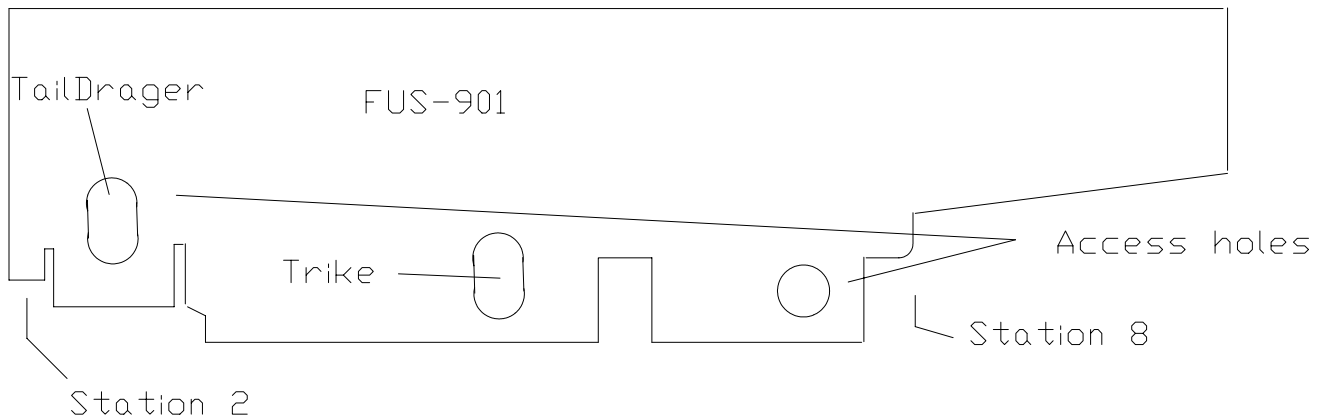
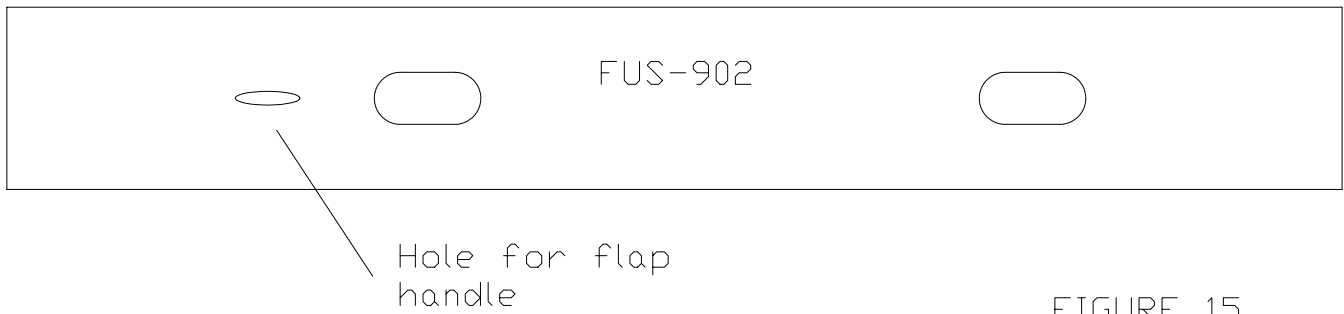

FIGURE 13
FIGURE 15
- 27) Layout and drill any extra Access Holes you require (Figure 13 and Figure 15) in the three floor Panels.